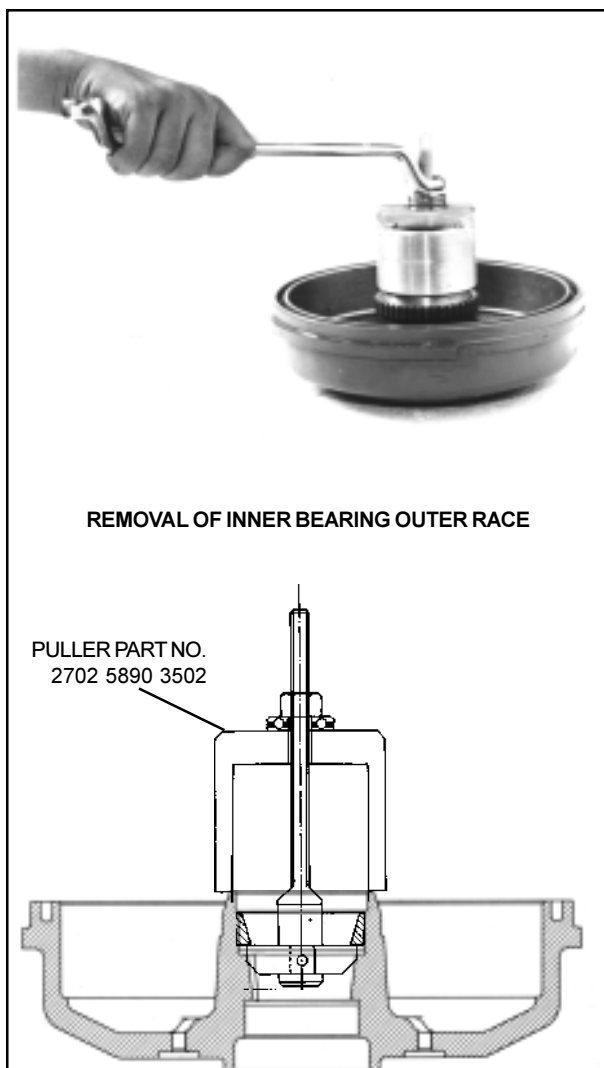

Fig. 34
4. Remove inner taper roller bearing outer race, using puller part No. 2702 5890 3502. Fig. 34